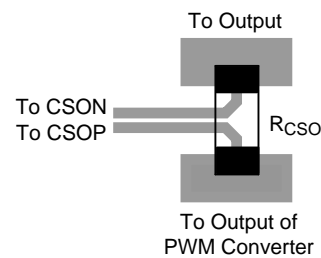

Figure 5. Kelvin Connections for the RCSO
- ▶ Connect the capacitor (between the CSOP and CSON pins) close to these pins. The paths of CSOP and CSON must be directly connected to the terminals of current-sense resistor (RCSO) using Kelvin connections as shown in the layout shown in Figure 5.